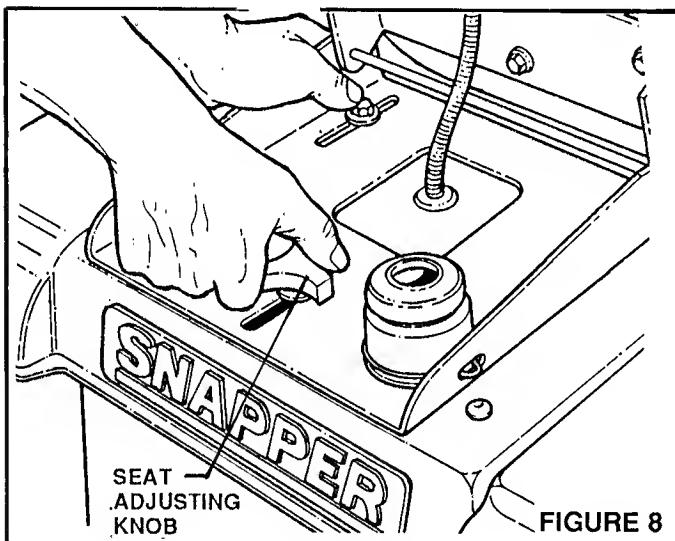

FIGURE 8
- RE-ADJUST SEAT as needed to most comfortable position. (Refer to Page 6, Figure 8).
See Figure 8.